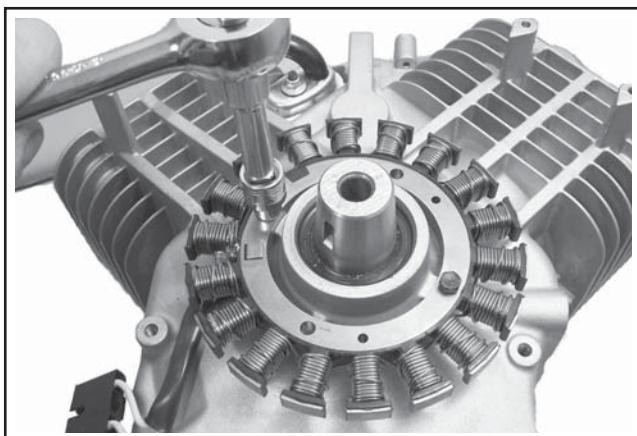

Figure 8-40. Removing Stator.
2. Remove the two hex flange screws and the stator. See Figure 8-40. Note the routing of the stator leads.